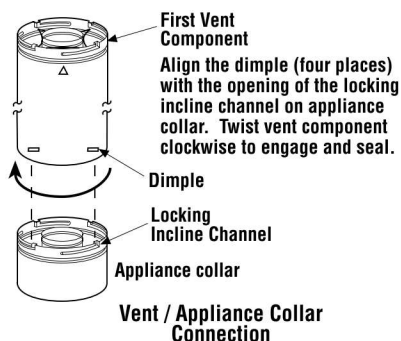

Figure 15
B. Attach vent components to appliance - Secure Vent SV8 direct vent system components are unitized concentric pipe components featuring positive twist lock connections (see **Figure 15**).
To attach a vent component to the appliance collar, align the dimpled end over the collar, adjusting the radial alignment until the four locking dimples are aligned with the inlet of the four inclined channels on the collar (refer to **Figure 15**). Push the vent component against the collar until it fully engages, then twist the component clockwise, running the dimples down and along the incline channels until they seat at the end of the channels. The unitized design of the **Secure Vent** components will engage and seal both the inner and outer pipe without the need for sealant or screws. If desired a #6 x 1/2" screw may be used at the joint, but it is not required as the pipe will securely lock when twisted.
D. Attach vent components to appliance - To attach a vent component to the appliance collar, align the dimpled end over the collar, adjusting the radial alignment until the four locking dimples are aligned with the inlets of the four incline channels on the collar (refer to **Figure 15 on page 11**).